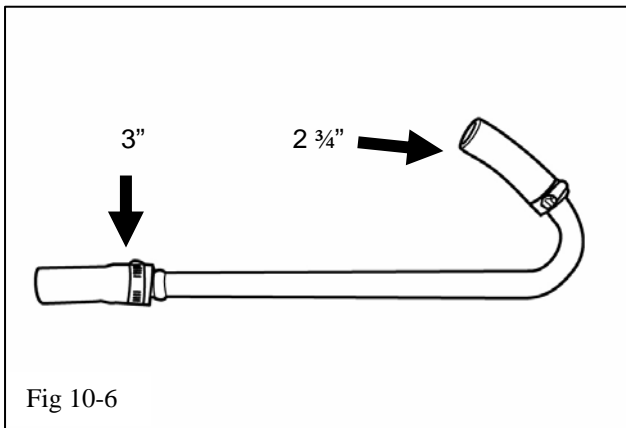

Fig 10-6
- (g) Take the supplied 1/2" coolant hose (B6) and cut one 2 3/4" length and one 3" length. Discard the extra left over hose. Slide the 2 3/4" length onto the short leg of the "J" shaped thermostat by-pass manifold (C2) and the 3" length of hose onto the longer leg (Fig 10-6). Secure with the supplied clamps (C3).